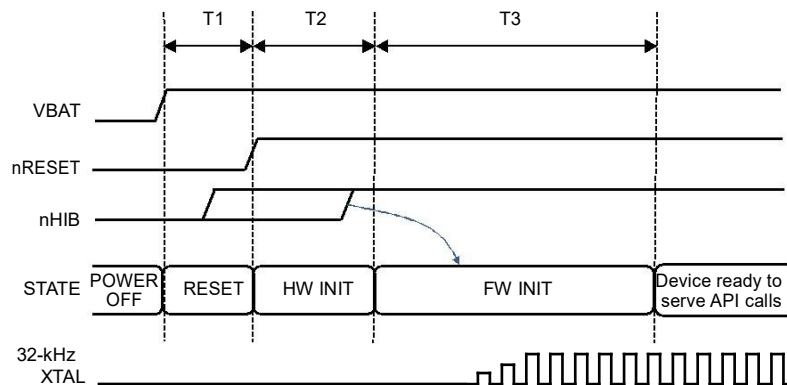

Figure 5. First-Time Power-Up and Reset Removal Timing Diagram
- Figure 5 shows the reset timing diagram for the first-time power-up and reset removal.